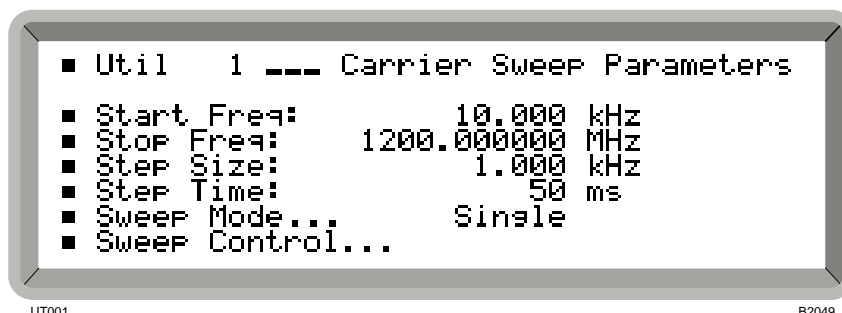

Fig. 4-12 Carrier sweep parameters menu
- (1) Select the *Util 1: Carrier Sweep Parameters* menu. This shows the currently selected parameter values (see Fig. 4-12) as well as the currently selected mode.
- (2) Enter the sweep start and stop frequencies.
- (3) Enter the step size. For linear sweeps enter the step size in the range 1 Hz to the instrument maximum frequency to a resolution of 1 Hz.